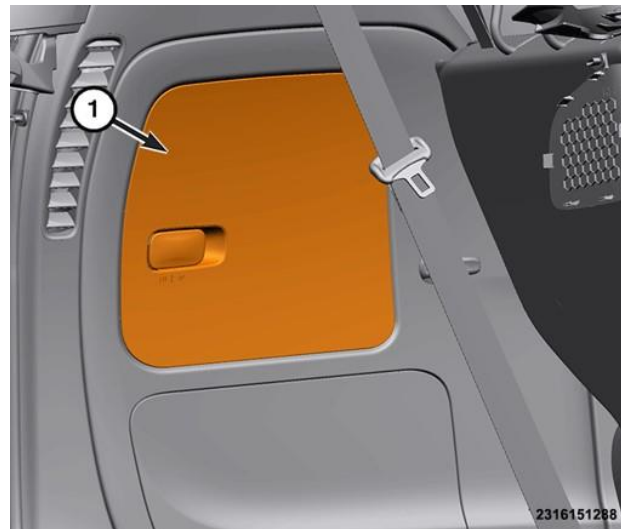

Figure 39 – Quarter Panel Insert
- 48. Open the access door (1) from the quarter trim panel (Figure 39).
65. Open the access door (1) on the quarter trim panel (Figure 39).
68. Close the access door (1) on the quarter trim panel (Figure 39).